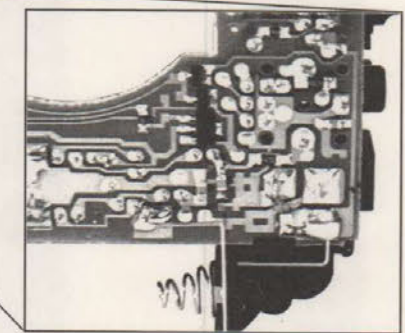

Fig.13
- Batteriekontakte ablöten (Fig.13).
- Unsolder the battery contacts (Fig.13).